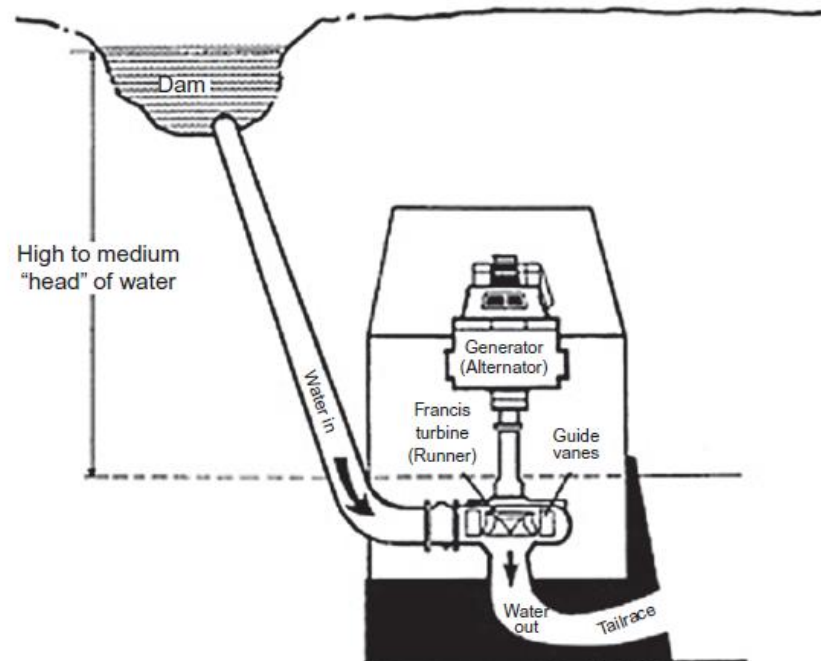

Figure A.12 Water flow through Francis turbine.
**Francis Turbine:** This is an example of an inward radial-flow reaction turbine and is of relatively medium (specific) speed (between 38 and 380 rpm), suitable for medium heads (between 9 and 185 m) [8]. In Francis Turbine high pressure water enters the turbine with radial inflow and leaves the turbine axially through the draft tube (Figure A.12). The high-pressure water while passing through guide vanes, located at the periphery of the turbine shaft, rotate the shaft for producing power. The speed of the shaft is maintained constant at various loads by changing the vane angle.